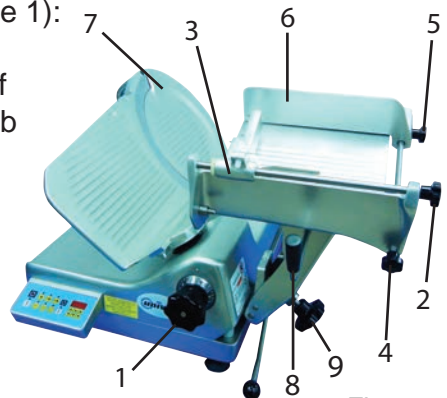
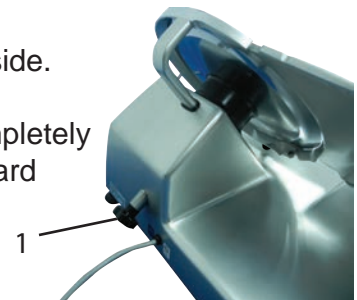

Figure 1
Figure 2
Warning: The protective guard (Overview [4]) covers the knife edge completely except at the forward edge where slicing will be performed. This forward edge is covered by the edge of the fence, but only when the slice adjustment is completely closed. The knife guard (Overview [6]) can be removed for cleaning by unscrewing the knife guard knob (refer to p.6 figure 2 [1]). For safety, keep the knife guard on at all times except when cleaning. Never operate the slicer with the knife guard removed.
1. Turn slice adjustment knob (Figure 1 [1]) to the fully closed position (beyond "0") so that the knife edge is not exposed. While holding the adjustment knob all the way closed loosen the carriage arm knob (Figure 1 [9]). The carriage may now be tilted away from the fence to the cleaning position. Note that while the carriage is tilted, the fence becomes locked in the cleaning position covering the forward portion of the knife.
2. Remove the following items to disassemble the slicer (Figure 1):
- a. Slice Adjustment Knob: Remove screw located on front of Slice Adjustment Knob (Figure 1 [1]) and set aside. Pull knob forward to remove and set aside (Note the shaft is keyed to ensure correct alignment).
- b. Last Slice Device Shaft: Unscrew knob and shaft (Figure 1 [2]) counter-clockwise from carriage and through Last Slice Device Figure 1 [3]) to remove and set aside.
- c. Adjustment Spacer Shaft: First loosen Adjustment Spacer Knob (Figure 1 [5]). Now unscrew the Adjustment Spacer Shaft (Figure 1 [4]) counter-clockwise to remove and set aside. Adjustment Spacer (Figure 1 [6]) can now be removed and set aside.
- d. Blade Guard: Loosen the Blade Guard Knob (Figure 2 [1]) completely and push it towards the blade to assist in removing the Blade Guard (Figure 1 [7]). Be careful when working around the blade edge.
- e. Carriage Arm Handle: Loosen and remove the black handle (Figure 1 [8]) and set aside